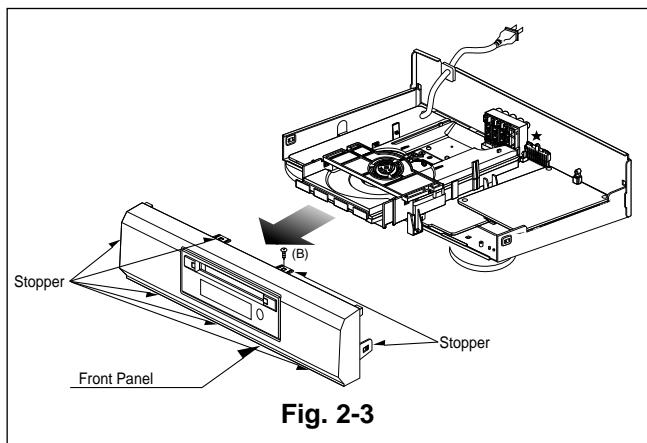
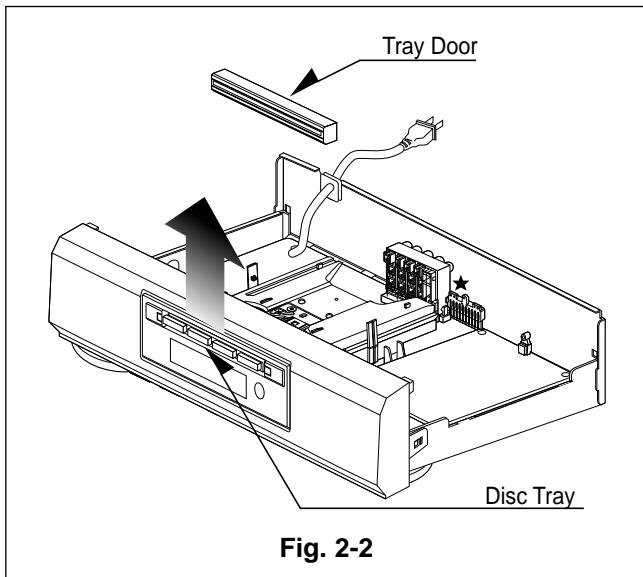

Fig. 2-3
Fig. 2-2
1. Eject the disc tray. (See Fig. 2-2)
2. Remove the tray door. (See Fig. 2-2)
3. Release 2 screws (B).
4. Pull the front panel toward you while pressing 7 stoppers to disengage, and remove the front panel. (See Fig. 2-3)
1. Remove the front panel.(See Fig. 2-3)
2. Release 4 screws (E), and remove the digitron circuit board.